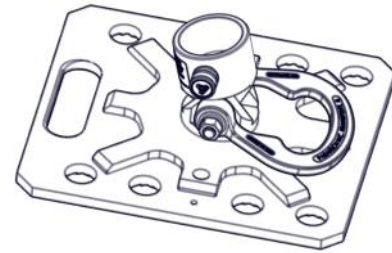

Figure 1-17. Hinged Base 12 W/Anchor Ring
n. **Hinged Base 12 W/Anchor Ring.** The Hinged Base 12 W/Anchor Ring (Figure 1-17) is similar to Hinged Base w/Anchor Ring 6 except it has a 12" base plate with 8 holes to accept 1" (2.5 cm) pickets